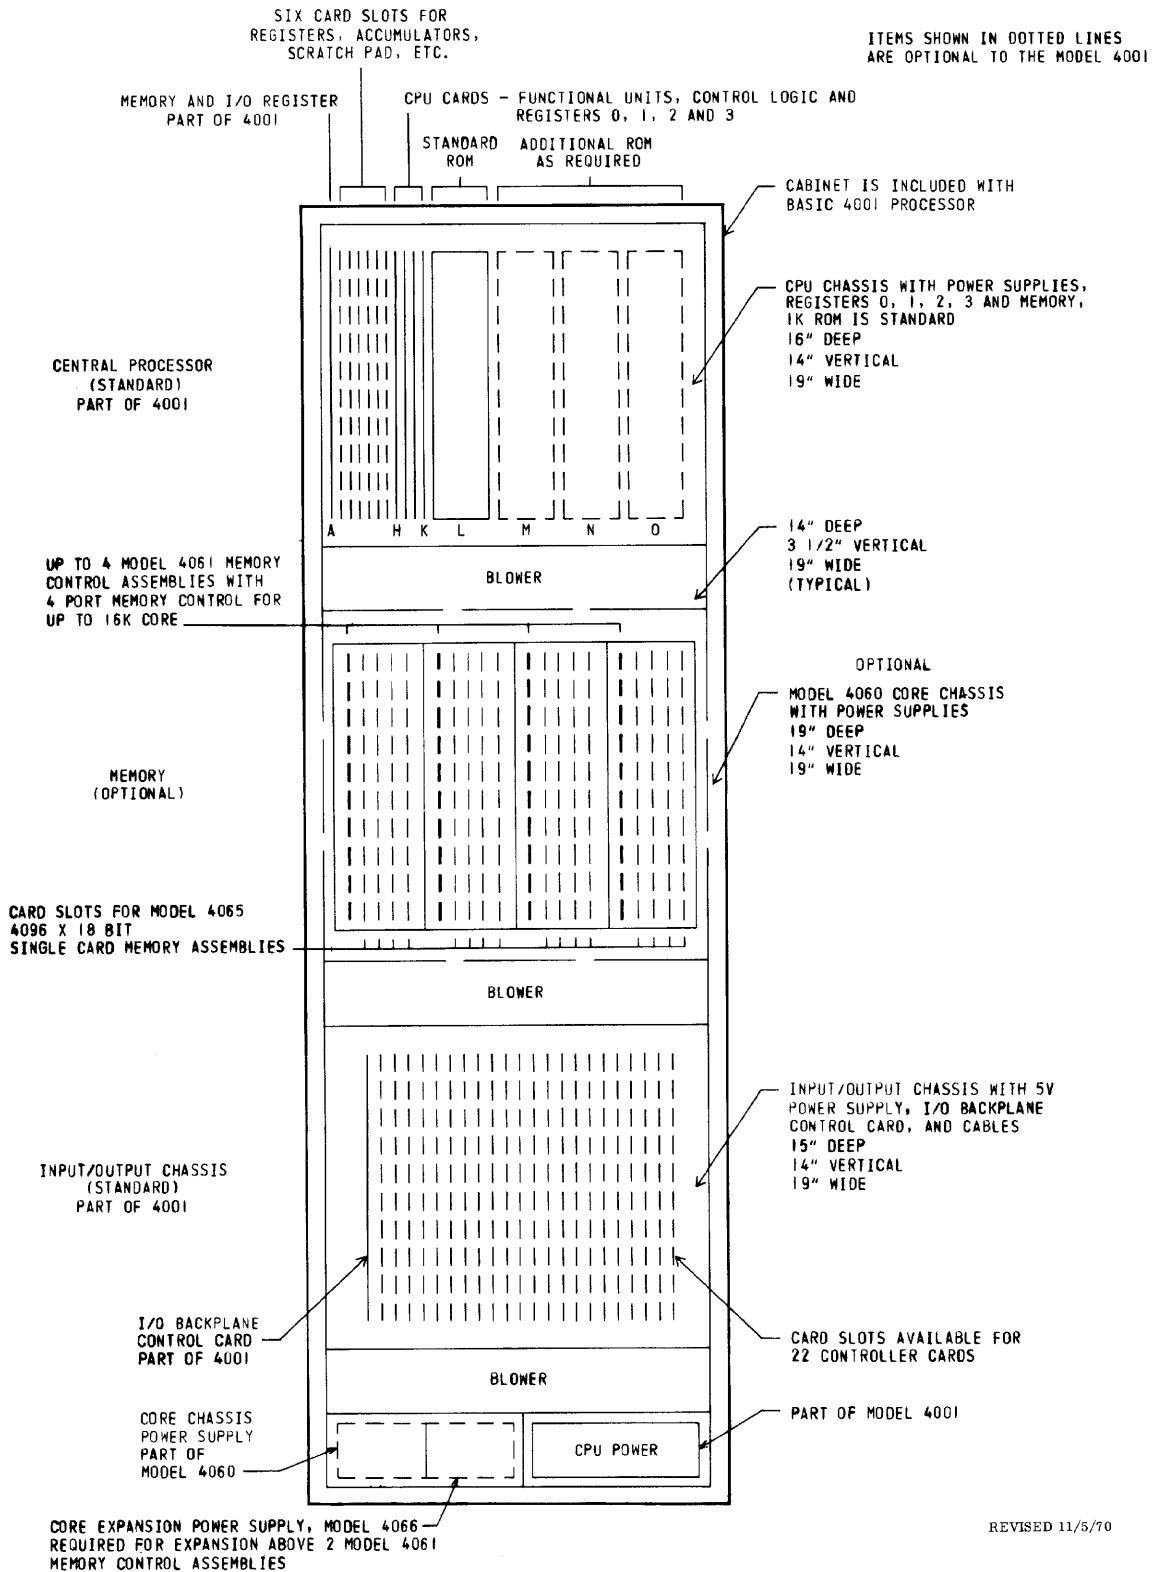

FIGURE 1-5. DIGITAL SCIENTIFIC META 4 COMPUTER SYSTEM ROM BOARD, TYPICAL PATTERN
•The ROM comprises a word drive and bit sense structure which is loaded with firmware contents by sliding in storage boards that have removable adhesive-bonded metallic "bit-patch" patterns, representing bit positions in sequential instructions. A bit patch is binary "1" and the absence of a bit-patch indicates binary "0." See Figure 1-5.